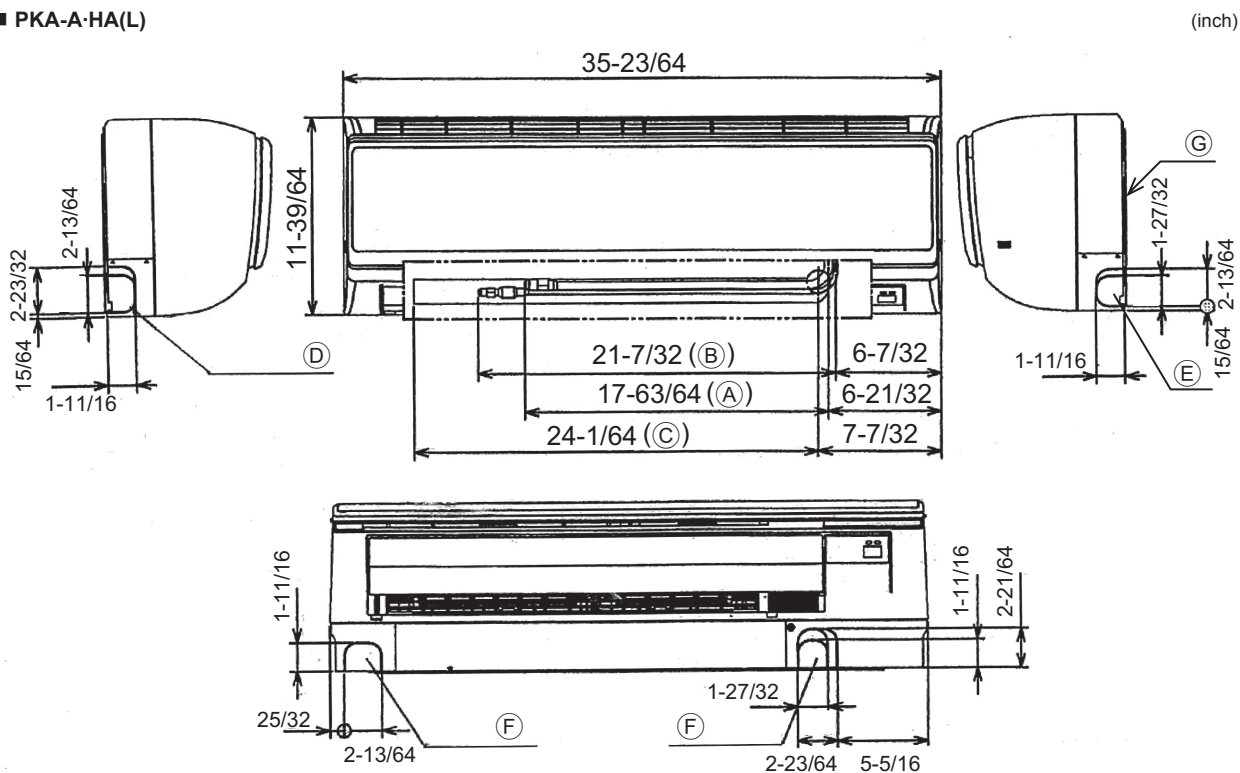

Fig. 4-2
- (C) Apply refrigerating machine oil over the entire flare seat surface.
- (D) Use correct flare nuts meeting the pipe size of the outdoor unit.
4.3. Positioning refrigerant and drain piping (Fig. 4-2)
- (A) Gas pipe * Indicates the condition with accessories mounted.
- (B) Liquid pipe
- (C) Drain hose
- (D) Left-side piping knockout hole
- (E) Right-side piping knockout hole
- (F) Lower piping knockout hole
- (G) Mount board ①